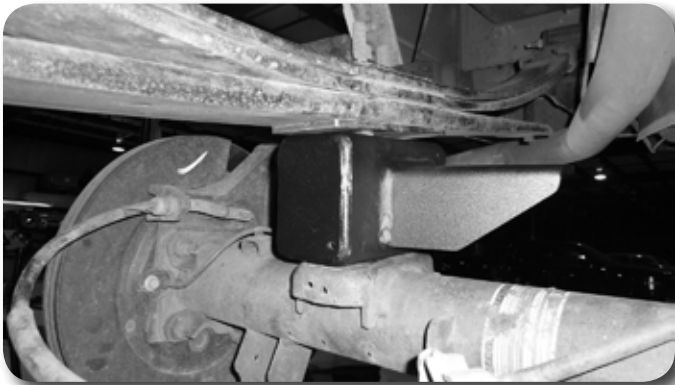

Figure 45
88. Install the new bump stop as shown (Fig 45). The gusset on the wing will face towards the front of the vehicle. The part # is stamped on the bump stop wing. Part # 02429 = Driver's side, #02430 = Pass side.